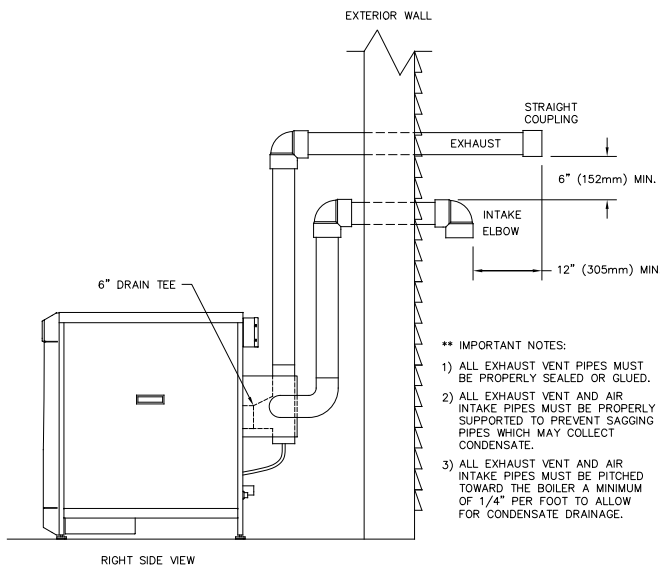

Figure 3.3: Sidewall Exhaust Vent and Air Inlet Pipe
- b. Figure 3.3, 3.4 and 3.5 show approved sidewall venting configurations using standard PVC or CPVC fittings. A similar configuration using FasNSeal stainless steel exhaust pipe can be used with either PVC or other approved material for the combustion air intake piping.